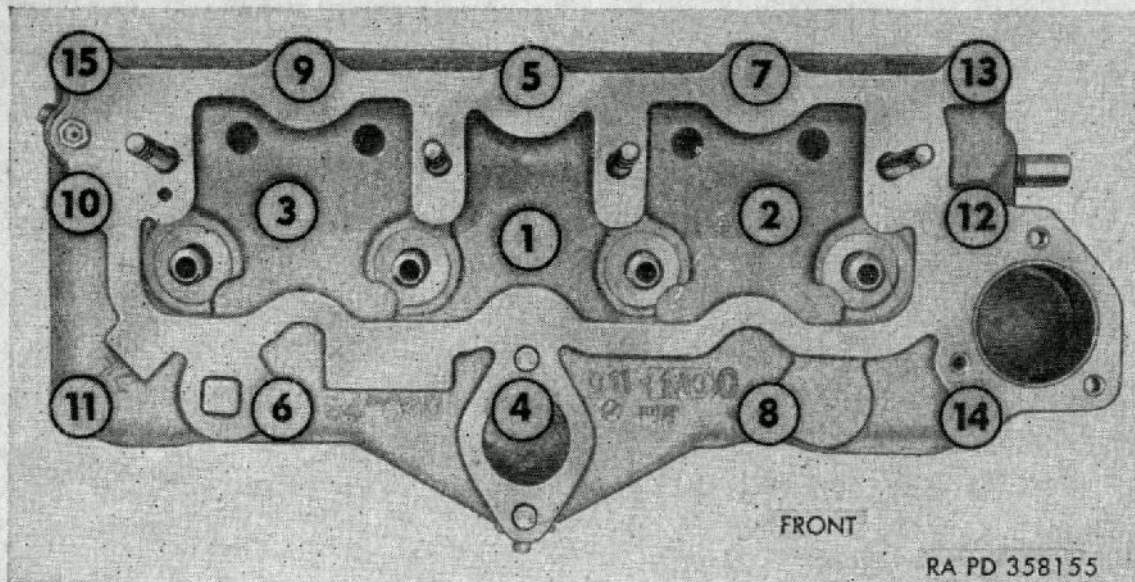

Figure 28. Cylinder head cap screws tightening sequence.
*Note.*—One cylinder head cap screw (fig. 28) is located down in the intake manifold.
stall the remaining 12 cylinder head cap screws and flat washers and tighten all cylinder head cap screws to 65 to 75 pound-feet torque with a torque indicating wrench in sequence indicated in figure 28.